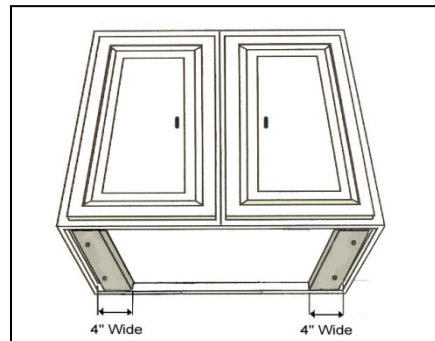

Figure 7
- For installing under the cabinet with recessed bottom, attach 4-inch wide wood filler strips (not included) on each side. Refer to Figure 7.